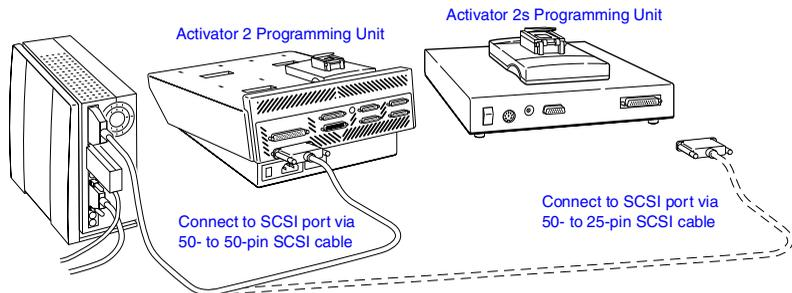

Figure 3-1. Activator 2 and 2s Workstation Connections
4. **Connect the Activator to the workstation using the supplied SCSI cable.** Connect one end of the cable to a SCSI connector on the Activator rear panel (you can use either connector on the Activator 2) and tighten the locking screws. Connect the other end of the cable to the SCSI connector of the workstation and tighten the locking screws or make sure the micro-miniature SCSI connector has snapped into place. See Figure 3-1 on page 20 for the location of the SCSI connectors.
- 4. Connect the Activator to the workstation using the supplied SCSI cable.** Connect one end of the cable to a SCSI connector on the Activator rear panel (you can use either connector on the Activator 2) and tighten the locking screws. Connect the other end of the cable to the SCSI connector of the workstation and tighten the locking screws or make sure the micro-miniature SCSI connector has snapped into place. See Figure 3-1 on page 20 for the location of the SCSI connectors.